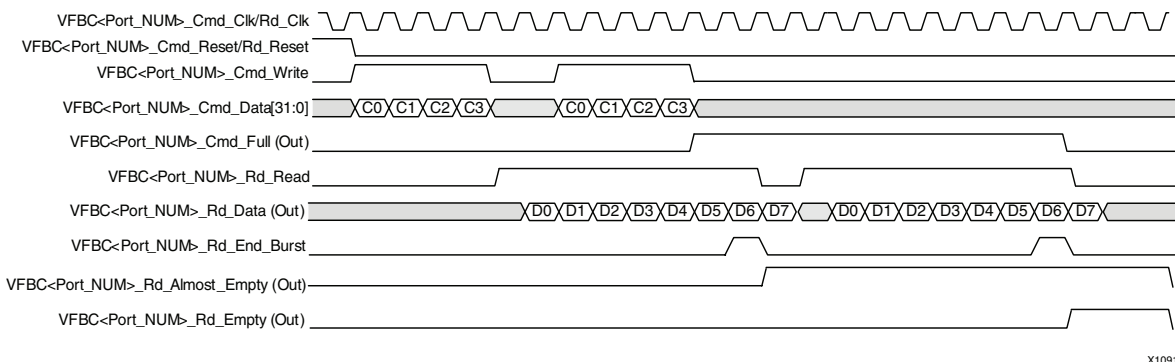

Figure 41: VFBC Read Timing
Figure 41 shows a typical Read operation. Notes on the operation are listed after the figure.
- Figure 41 shows one cycle between `VFBC<Port_Num>_Rd_End_Burst` and the next burst; although, zero to any number of cycles can exist between Read transactions.